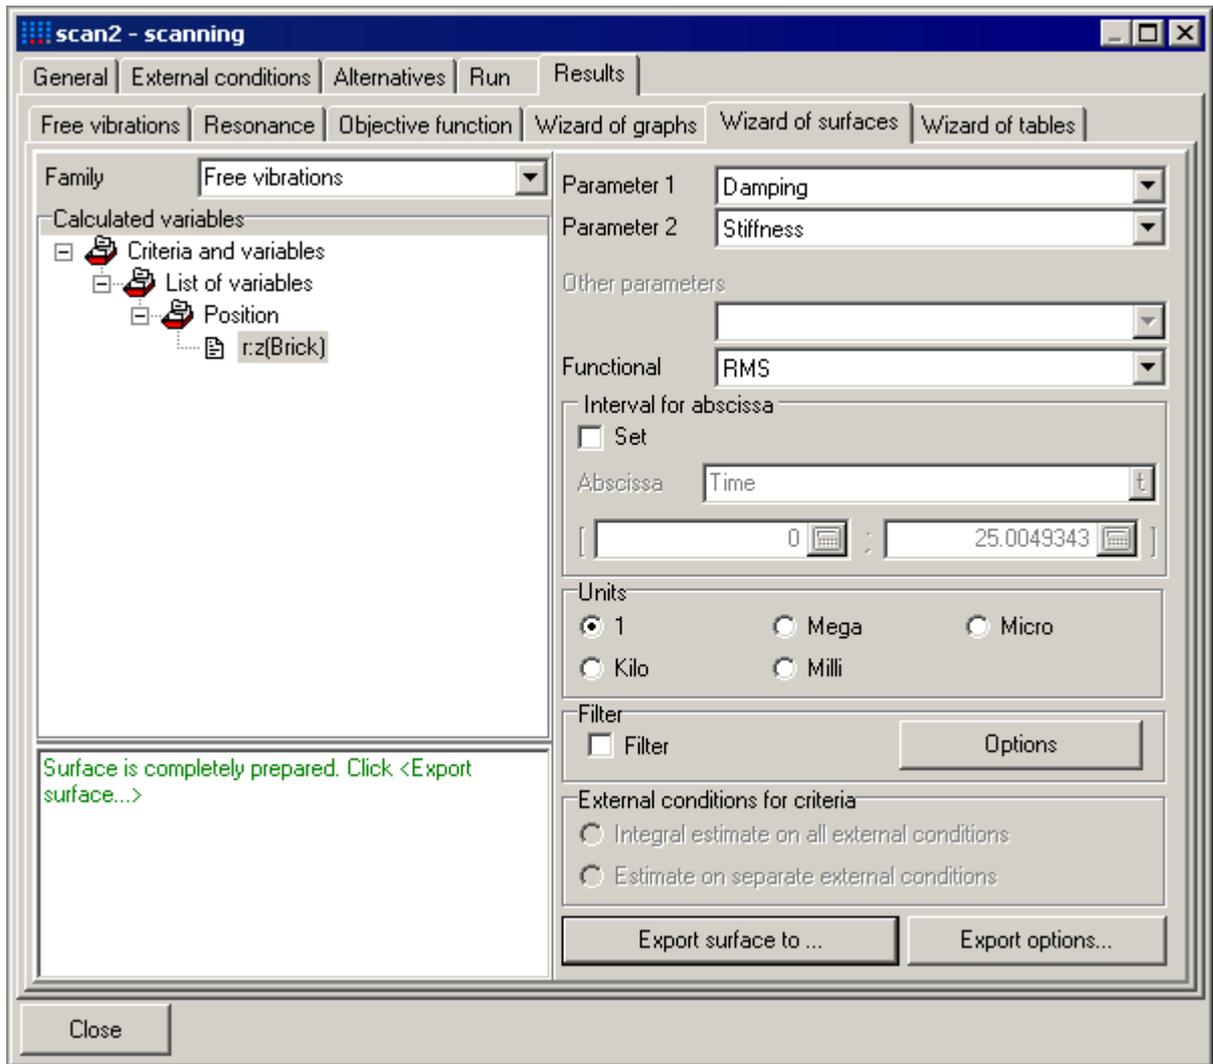
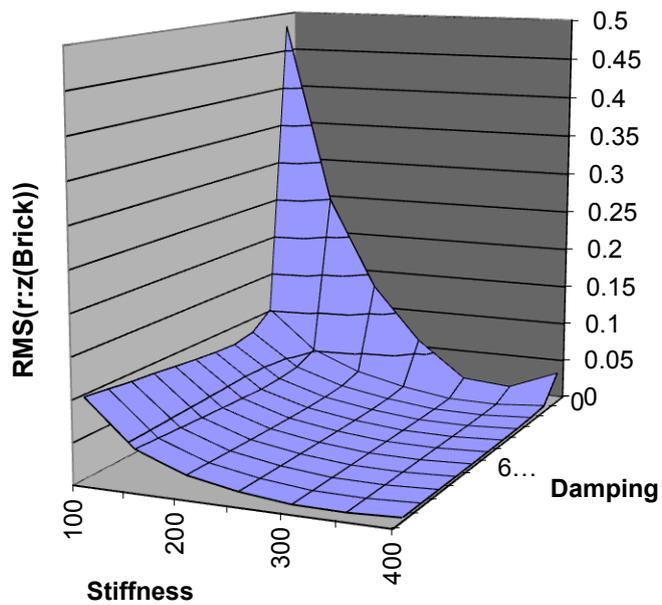

Figure 6.15. Wizard of surfaces
Figure 6.16. Exported surface
Wizard of surfaces is intended for creating the response surface as functional of any calculated variable in dependence on two any design parameters keeping other parameters constant. Working with **Wizard of surfaces** make sense if scanning has at least two design parameters. **Wizard of surfaces** is quite similar to **Wizard of graphs**. An example of using the **Wizard of surfaces** is given in Figure 6.15. Corresponding surface in *Microsoft Excel* is given in Figure 6.16.
- Select the family, calculated variable or criterion and necessary functional, see Figure 6.15.